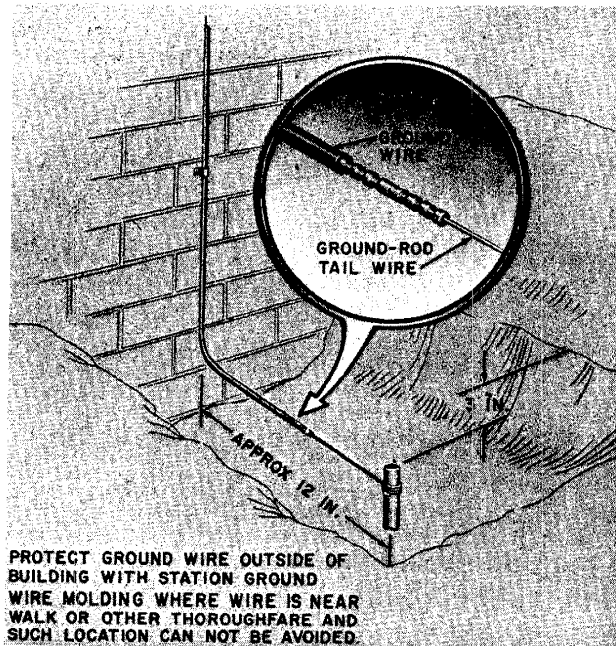

Fig. 27—Ground Rod Installation Near Wall
- Approximately 12 inches from outside wall (Fig. 27).
- (g) Drive ground rods until the top of the rod is approximately 3 inches below ground level (Fig. 27 and 28). Increase depth where damage from digging is likely.
**7.03** After the ground rod is installed, No. 14 station ground wire is spliced to the tail wire with a 0.064 brass sleeve. Press the sleeve 6 times, 3 times each side of center (Fig. 27 and 28). Do not tape splice. When a larger size of ground wire must be terminated on the ground rod, select the proper size and type of ground clamp as listed in Table C.